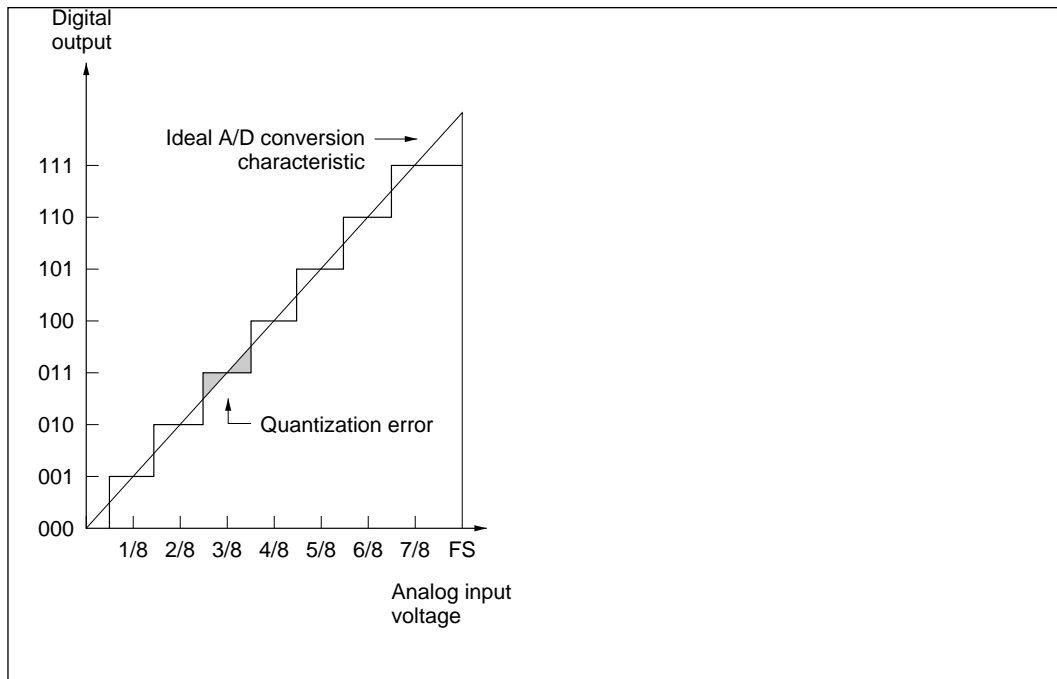

Figure 15-9 A/D Converter Accuracy Definitions (1)
- Quantization error:Intrinsic error of the A/D converter; 1/2 LSB (figure 15-9)